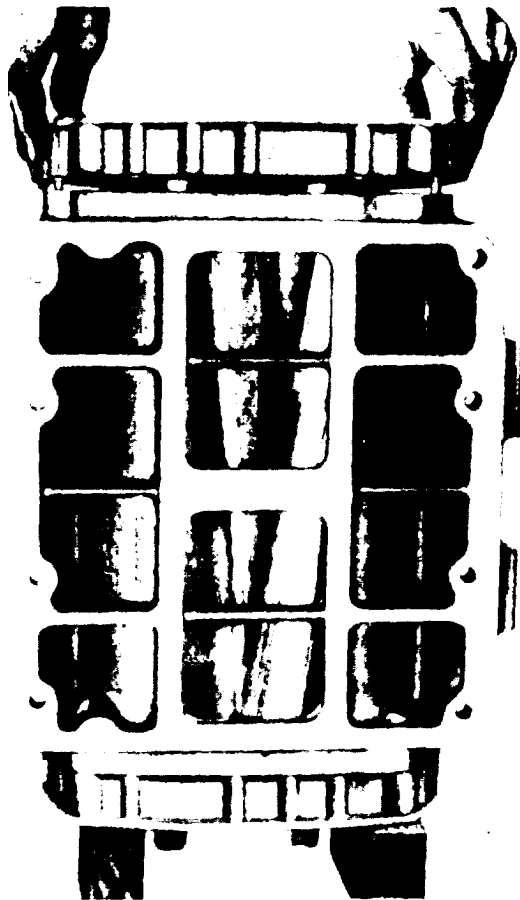

Figure 11D-16. Installing Front End Plate
- B. Place installer J 6270-4 on top of the bearing and tap the bearing on the shaft and into the front end plate as shown in Figure 11D-17.
3. Affix a new gasket (32) to blower front end plate cover (38).